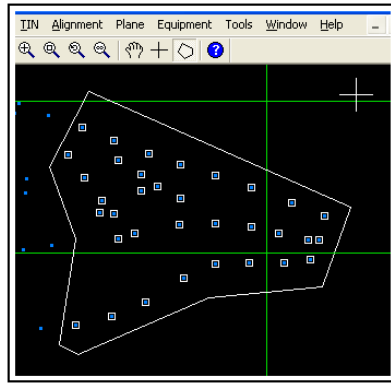

Figure 7-10. Trace Polygon and Calculate Best-fit Surface
1. Using the polygon selection tool, trace a polygon around the area for which to define a boundary. When the polyline becomes a thick white border, click once to close the polygon (Figure 7-10).